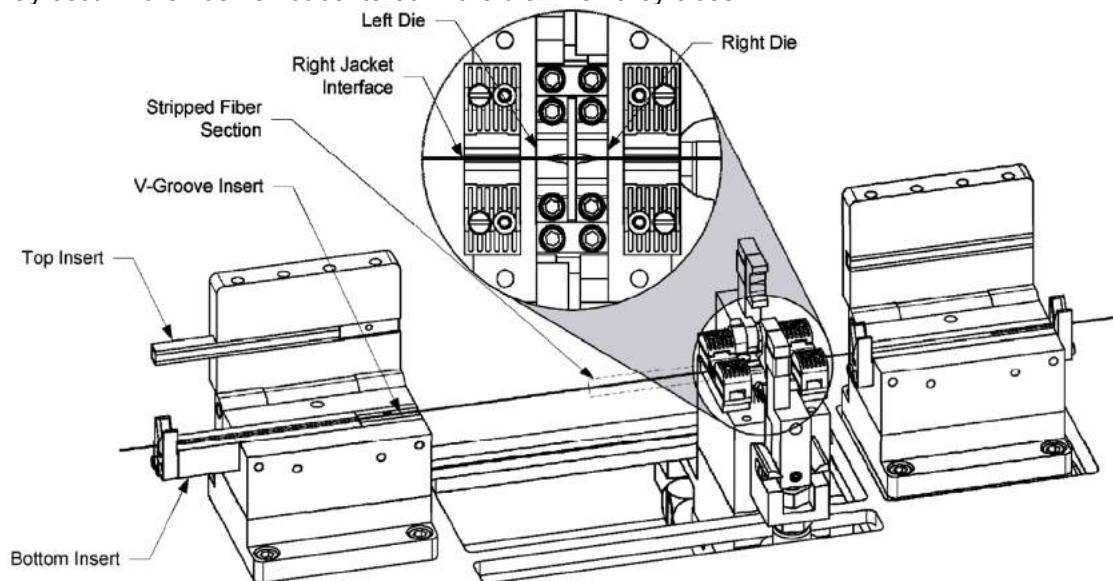

Figure 5 Fiber Position
11. Watch for recoat material to emerge from the die inject port located at the center of the center of the bottom right die (see Figure 5). Make sure to collect the recoat material with a cotton swab as it comes out of the die injection port. Do not allow recoat material to run down between the die.
12. Execute three (3) additional "Inject 100" sequences to purge air completely from the inject tube. **Note:** Because the injection pump holds 100 μ l of recoat material, there will be a delay of approximately one minute between the second and third inject sequences while the pump refills.
4. Manually position the fiber in the FHBs so that the right jacket interface is in line with the left edge of the recoat head (see Figure 5). Verify that the fiber is centered in the left and right die. **Note:** Damage to the die may occur if the fiber is not centered in the die when they close.